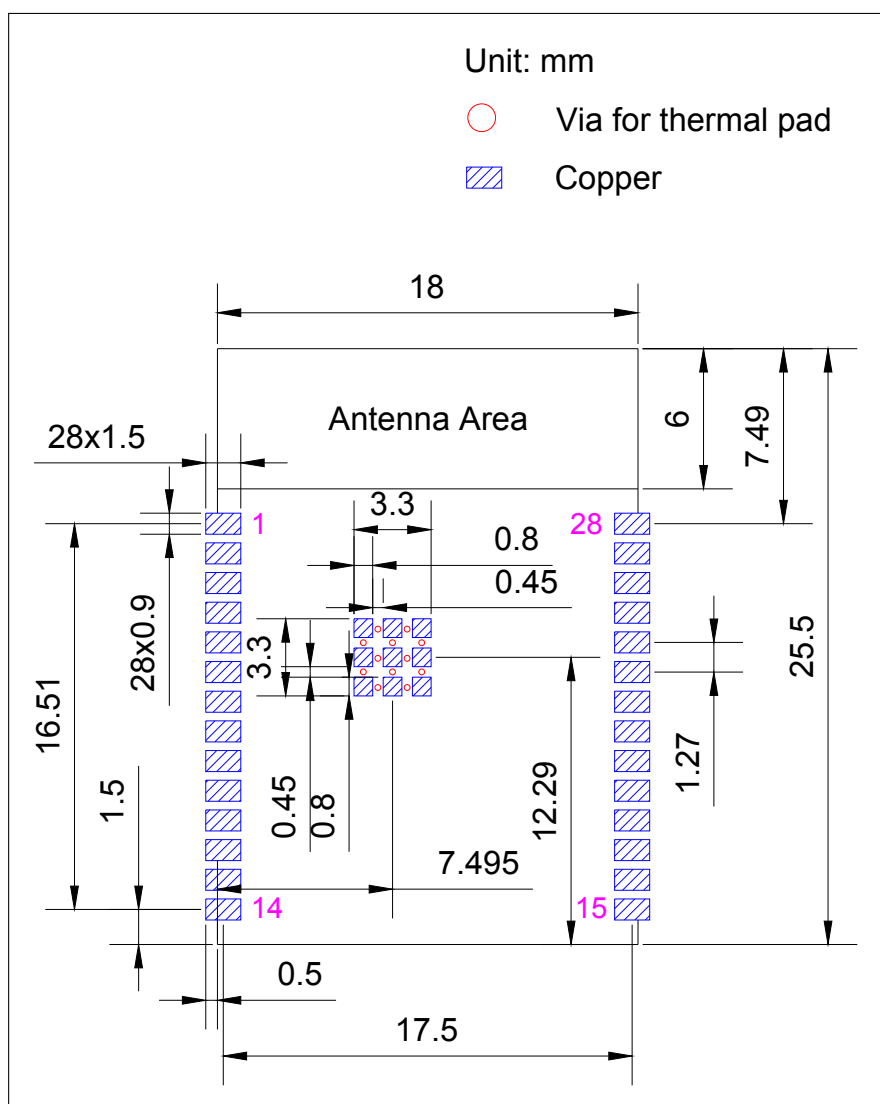

Figure 10: ESP32-C6-WROOM-1 Recommended PCB Land Pattern
- Figures for recommended PCB land patterns with all the dimensions needed for PCB design. See Figure 10 ESP32-C6-WROOM-1 Recommended PCB Land Pattern and Figure 11 ESP32-C6-WROOM-1U Recommended PCB Land Pattern.
- Source files of recommended PCB land patterns to measure dimensions not covered in Figure 10 and Figure 11. You can view the source files for ESP32-C6-WROOM-1 and ESP32-C6-WROOM-1U with Autodesk Viewer.